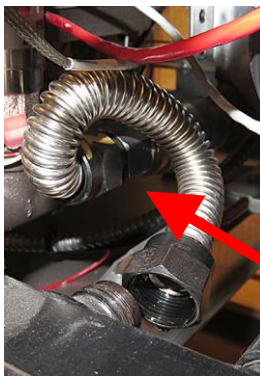

Figure 42
40. Disconnect the flexline from the manifold connecting the oil manifold to the filter pump (see Figure 42).